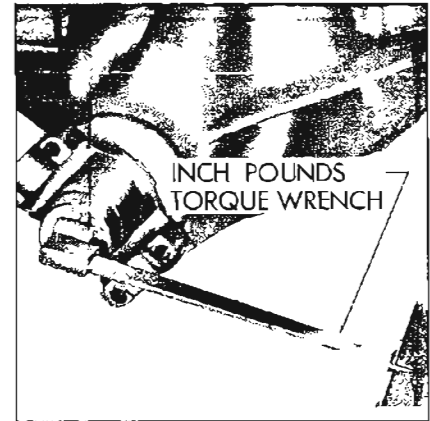

Figure 6-28—Checking Pinion Bearing Preload
6. Check preload by using an inch pound torque wrench as shown in Figure 6-28.